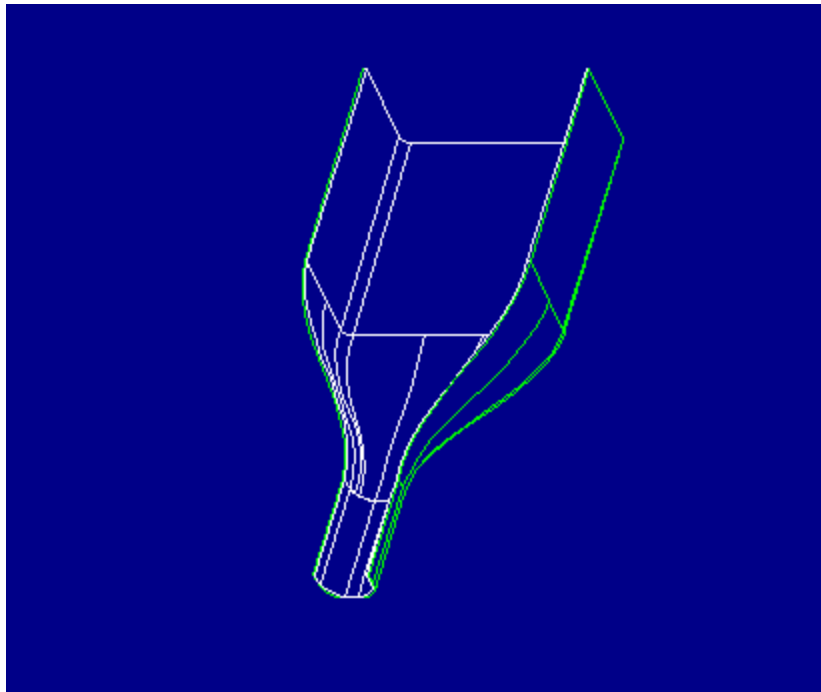

Figure 9
11. Create a layer and place the quilt on the layer. Blank the layer and the part will resemble Figure 9.